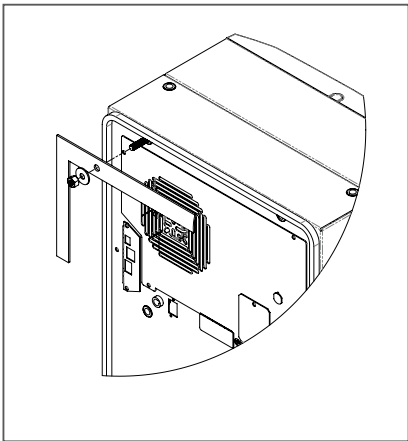

Figure 4
- 3. Screw the supplied grub screws into the blind nuts on the rear of the unit, see Figure 4.
- 6. Allow unit to remain upright for a minimum of five (5) minutes before starting.